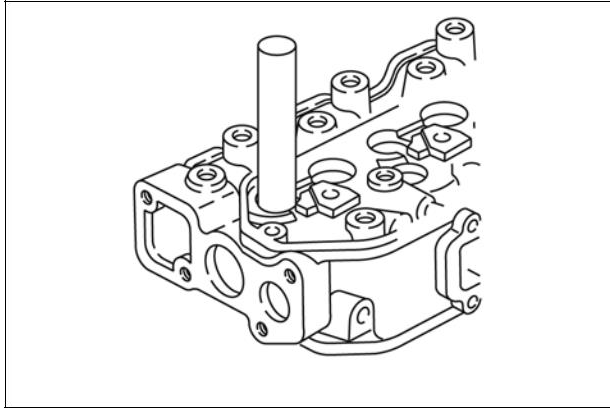

Figure 16
9. Using Bushing Driver #19416, press in new valve guide bushing until tool bottoms on cylinder head (Figure 16).